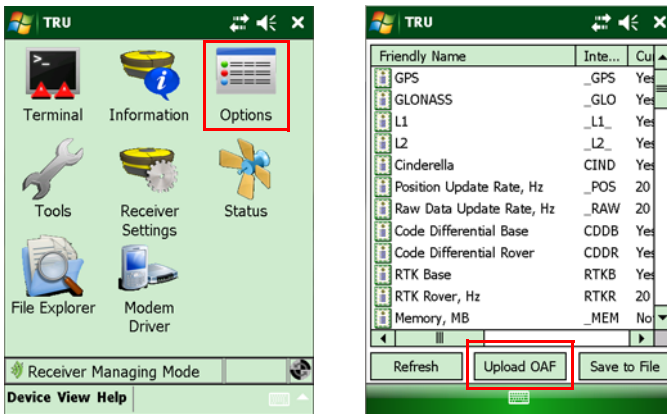

Figure 4-8. TRU – Receiver Options Window
The **Receiver Options** window appears (Figure 4-8), so you can view the current authorization options and upload new ones.
2. Click **Upload OAF** in the **Receiver Options** window (Figure 4-8).